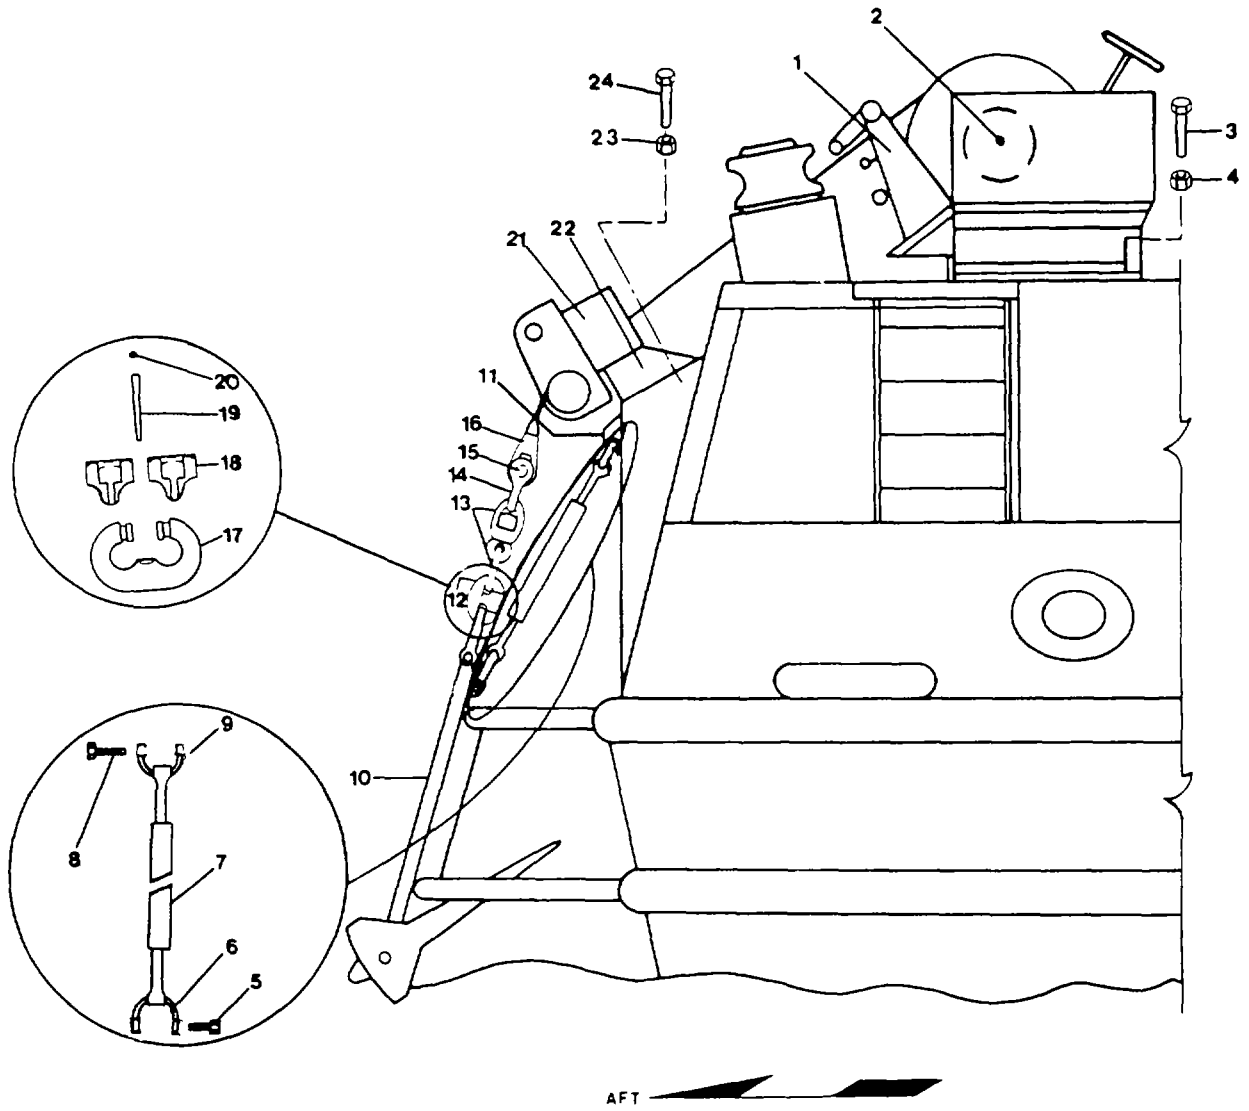
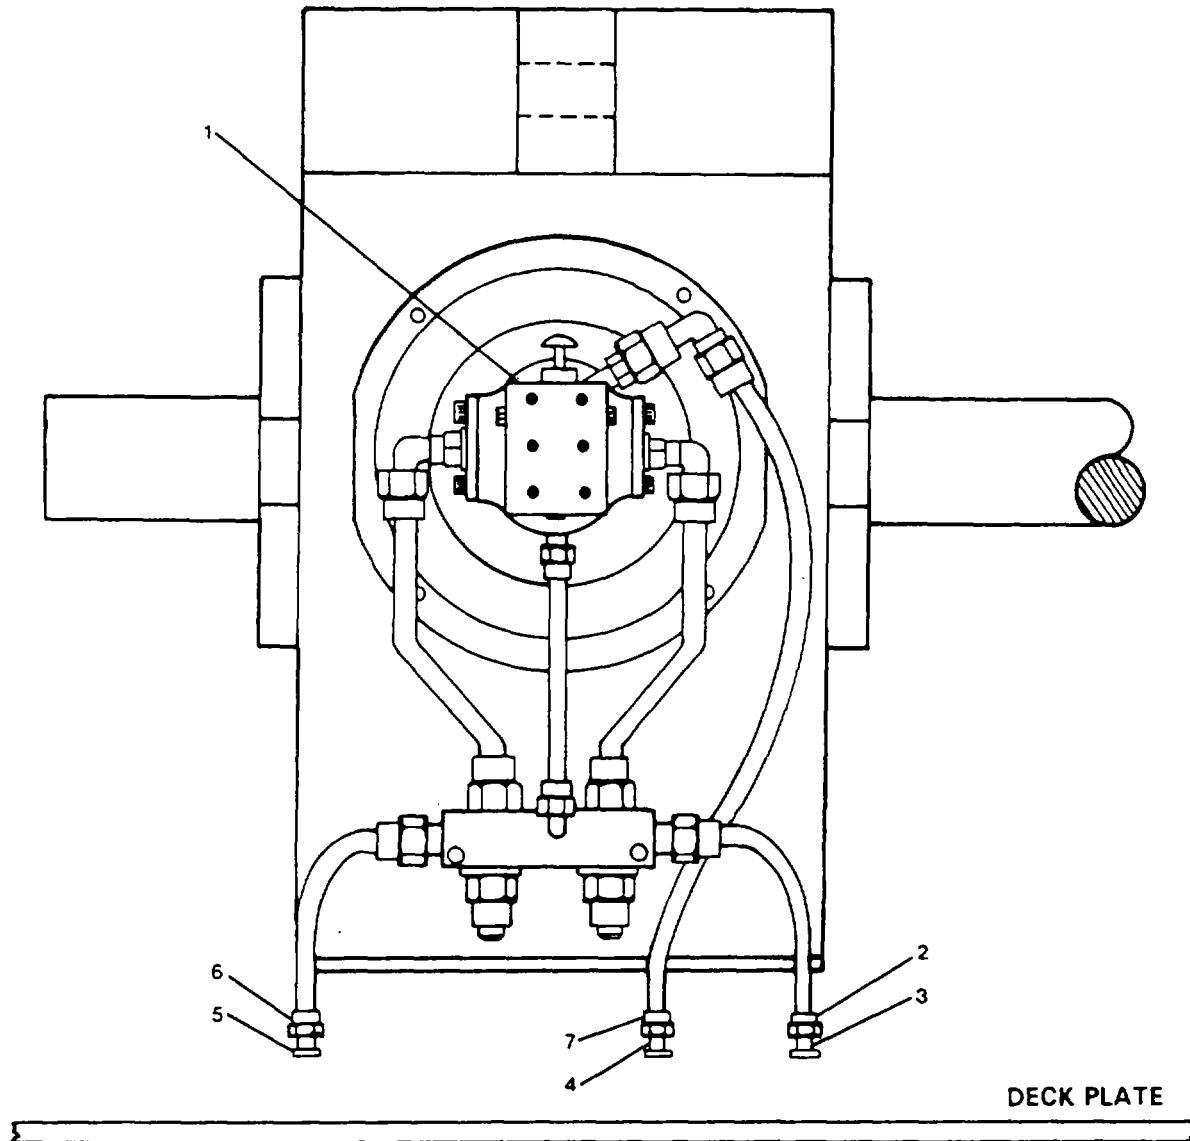

FIGURE 4-1. Stern Anchor Subsystem.
FIGURE 4-3. *Hydraulic Motor Assembly Line Connections.*
- a. Detachable Chain Link. (FIGURE 4-1)
- (1) Remove lead pellet (20) from body of detachable chain link (12) with a pointed object.
FIGURE 4-1 items (12), (13), (14), and
(16) are repaired.
FIGURE 4-1 items (6), (7), and (8) are
- (2) Drive tapered forelock pin (19) out of detachable chain link body with a punch.
- (3) Detach lugs (18) from detachable chain link body (17).
- (4) Separate anchor (10) and swivel and link assembly (13) from detachable link body (17).
- (5) Remove detachable chain link body and attaching assembly.
**b. Swivel and Link Assembly, Shackle.** (FIGURE 4-1)
- (1) Remove shackle pin (15) from shackle (14).
- (2) Separate swivel and link assembly (13) and single leg wire rope assembly (16) from shackle (14).
- (3) Remove shackle (14), pin (15) and swivel and link assembly (13).
**c. Fluked Marine Anchor.** (FIGURE 4-1)
- (1) Insert sling through mounting eye on anchor (10) and attach to lifting device.
- (2) Lift anchor to release tension on turnbuckle (7).
- (3) Remove shackle pin (5) from shackle (6).
- (4) Separate anchor (10) from turnbuckle (7).
- (5) Remove shackle (6).
- (6) Lower anchor until fluked end of anchor clears storage position.
- (7) Lift anchor clear of stern and secure on dock or deck.
**d. Turnbuckle.** (FIGURE 4-1)
- (1) Remove shackle pin (8) from shackle (9).
- (2) Separate eye of turnbuckle (7) from pad eye (11).
- (3) Remove shackle (9), and turnbuckle (7).
- (6) Slowly unscrew brake wheel (5) counterclockwise.
- (7) On stern control box, move control switch to HAULBACK mode and haul single end wire rope assembly (1) up and through fairlead with roller swivel (2), levelwind carriage (3) and travel completed at spool (4).
- (8) Attach end of wire rope assembly (1) to empty reel.
- (9) On stern control box, move control switch to PAYOUT mode to transfer wire rope assembly from spool to empty reel.
- (10) Maintain tension on wire rope at empty reel.